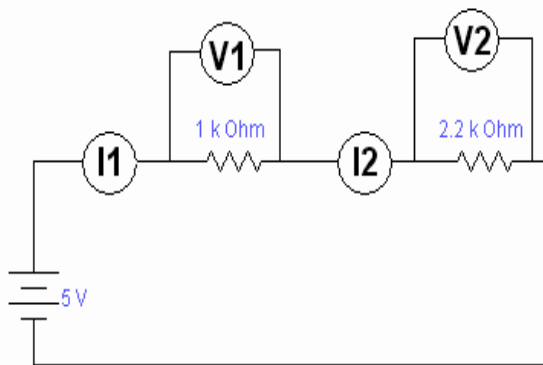

Figure 1
1. Determine the R equivalent and calculate the values for I_1 , I_2 , V_1 and V_2 first then make a circuit like Figure 1 and take measurements using a multimeter. Compare the results of measurements and calculations made!